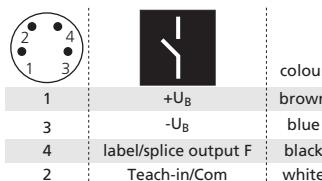
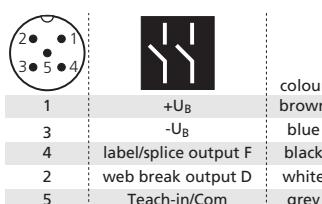

Fig. 1: Pin assignment of esf-1/CF and colour coding for microsonic connection lines
Fig. 2: Pin assignment of esf-1/..../CDF/A and colour coding of the microsonic connection lines
- Connect the connection line with the 4-pin M8 connector as shown in fig. 1, and with 5-pin M12 connector as shown in fig. 2.
If multiple esf-1 sensors are operated in tight space, they can influence one another. To avoid this, the esf-1 sensors can be synchronised. To do this, all Teach-in/com control inputs are connected together (see figs. 1 for the connector pinouts).